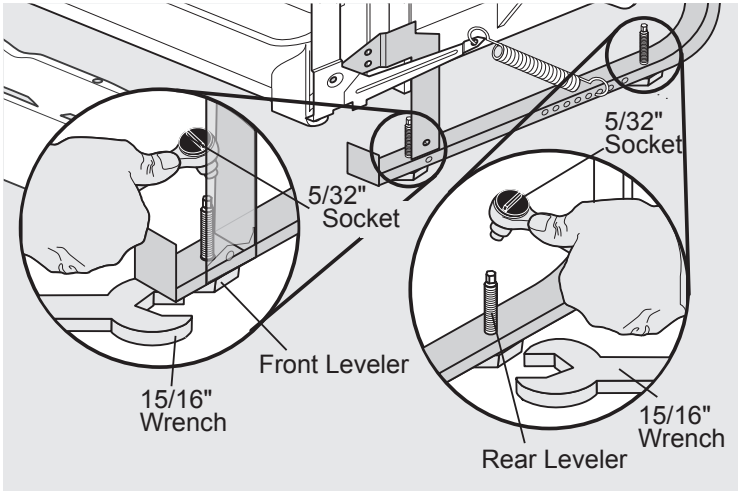

Figure 10
3. Loosen the front and rear leveling legs by turning counterclockwise. Refer to chart for number of turns. **See Figure 10.** Front levelers should allow 1/4" below underside of countertop.